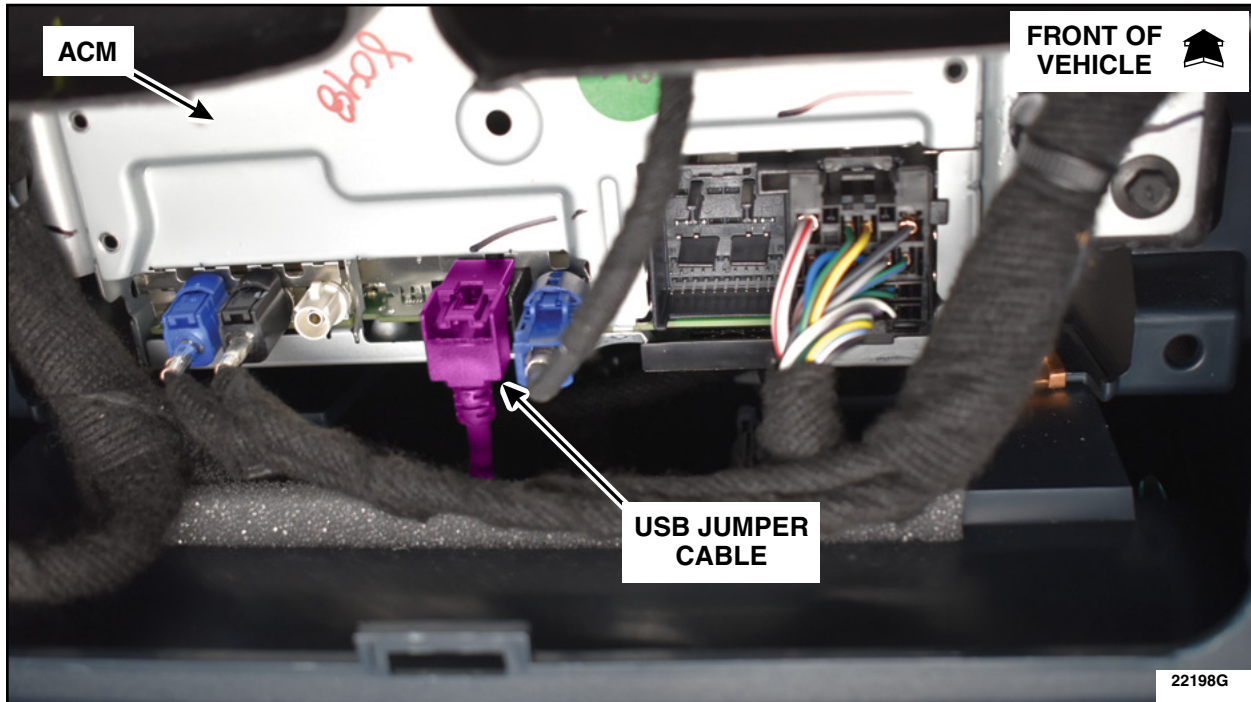

FIGURE 6
6. Connect the USB Jumper Cable to the ACM. See Figure 6.